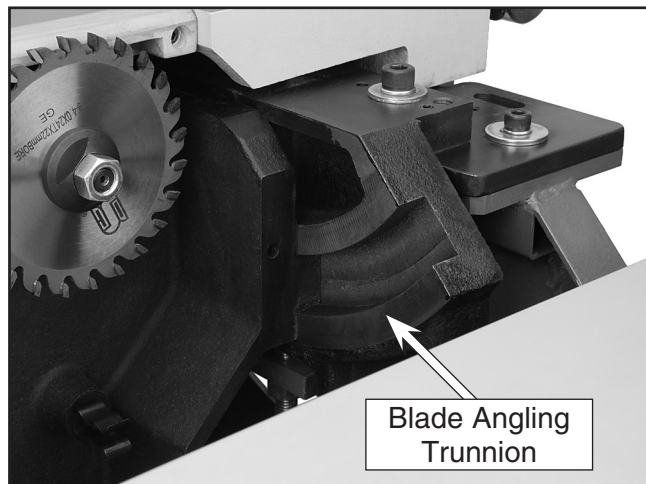

Figure 87. Blade angling trunnions.
1. **Blade angling trunnions.** These should be lubricated with 6 or 7 drops of light machine oil (see **Figure 87**).